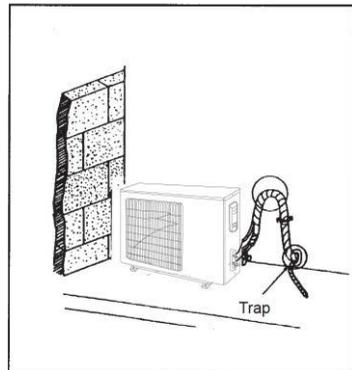

Fig. 16
- 2) All pipes are bound and taped together and also should be trapped to prevent water from returning to the room (See Fig. 16)